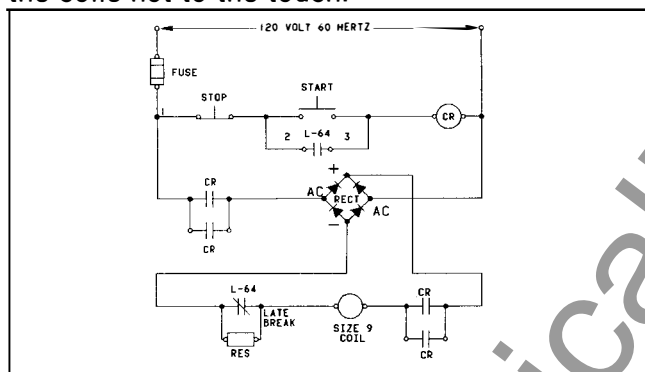

Fig. 4 Non-reversing Control Circuit
Each size 9 contactor has a single winding DC coil rated such that it can be supplied from a full wave rectifier operating at 120 volts AC. As the operating magnet armature approaches its sealed position a late-break, normally-closed auxiliary contact opens and introduces a resistor into the coil circuit reducing the voltage across the coil to approximately 17 volts DC. See Figures 4 and 5 for control circuits. The control relays (CR) shown in Figures 4 and 5 are not included with the contactor. The 120 volt, 60 hertz control power transformer or separate supply must be capable of supplying 2100 VA inrush and 350 VA (350 Watts) continuously while maintaining an AC voltage of not less than 115 volts to the rectifier, in addition to supplying control relays and other control circuit devices such as indicating lights. Overcurrent protection for the control circuit (#12 AWG) should be provided at the source of control voltage in accordance with the NEC.